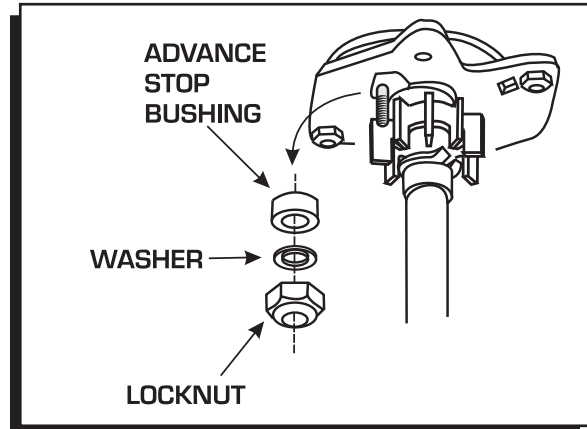

Figure 6 Changing the Advance Stop Bushing.
2. Remove the locknut and washer on the bottom of the advance assembly (Figure 6).